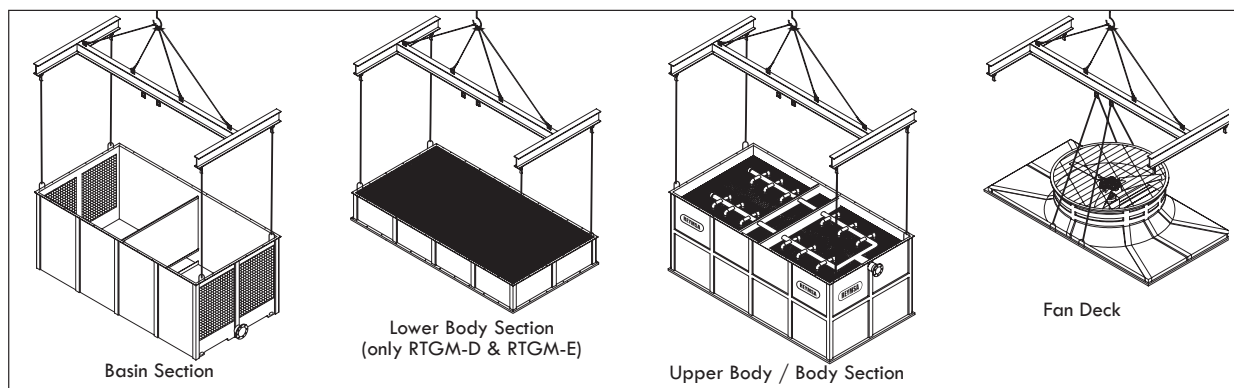

Figure A-73: Crane lifting for a Modular Tower (RTGM)
- B. After assuring the equipment is received in proper condition, proceed to unload it from the transportation vehicle, piece by piece, with a crane (using a spreader bar) or forklift of the appropriate capacity, see Figure A-73 for an example.
- C. For crane lifting, it's recommended to use a minimum lifting angle of 60° between the strap and the horizontal. Each section of the Tower has U-bolts for lifting. Place the straps through the U-bolts (as shown in Figure A-73) and use a spreader bar to avoid damage on the upper edge of the Tower. Don't balance until tensing the straps.